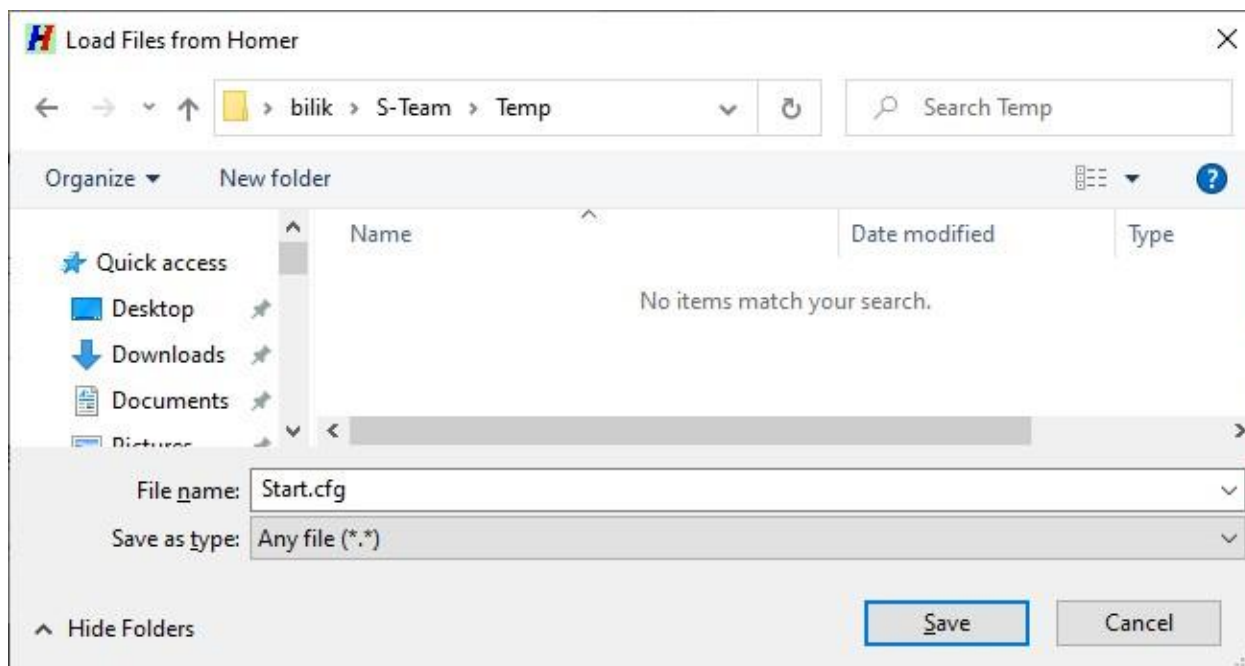

Figure 23. Load Files from Homer dialog.
- Browse for the folder in your PC to which you wish the downloaded file to be copied. The dialog then may look as in Figure 23.